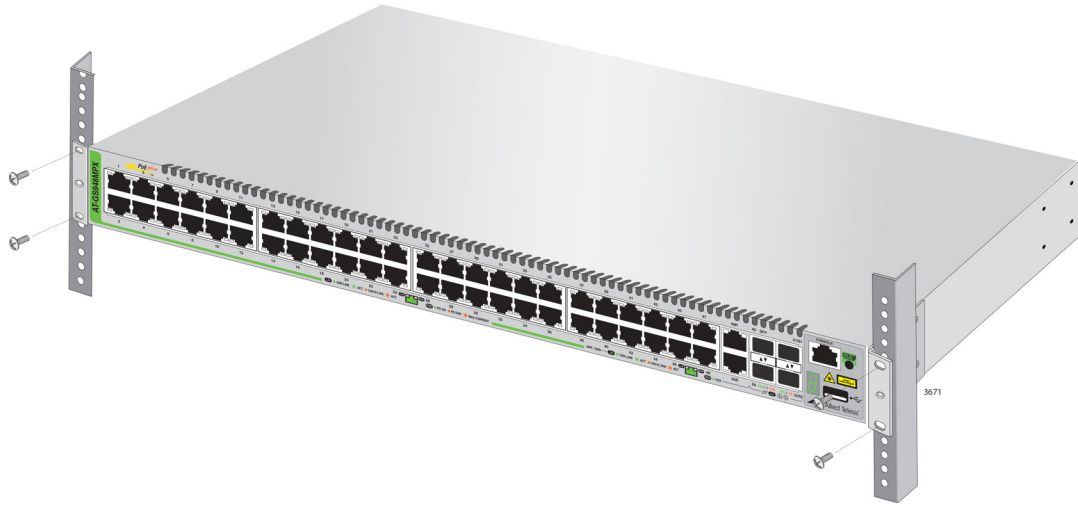

Figure 28. Mounting the Switch in an Equipment Rack
5. While another person holds the switch in the equipment rack, secure it with standard equipment rack screws (not provided), as shown in Figure 28.